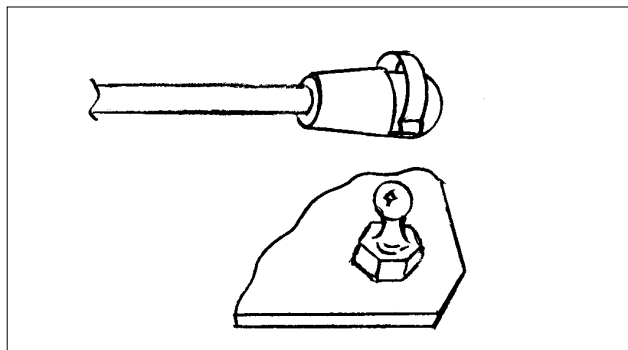

Figure 2 – Snap strut end onto ball stud
11. Snap the socket on the loose end of the strut onto the ball stud on the mounting bracket on the lower half of the Enclosure (fig. 2). Repeat for the second strut.